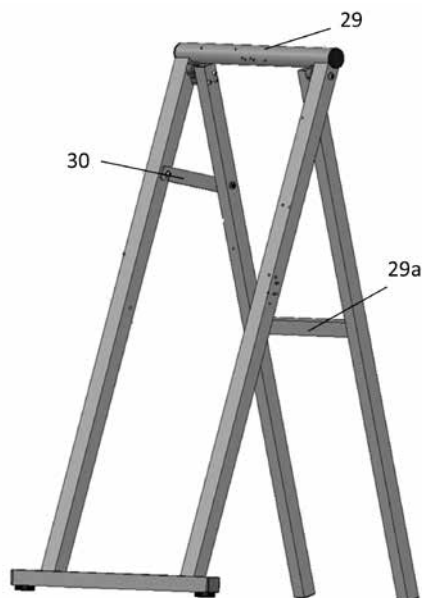

Fig. 4
Open the fastening clamp for the base (Pos. 24, Fig. 3) and separate this from the device. Set up the base as shown in Fig. 4 and lock the safety latch (30).
Lift the ProCut top by the carrying handle (Pos. 27, fig. 3) and the base plate (Pos. 1, Fig. 1) and centre it with the mount for the base (Pos. 23, Abb. 5) on the support for the ProCut top (Pos. 29, Fig. 4).
The transformer with cable reel (Pos. 26, Fig. 2) then leans against the support for the transformer with cable reel (Pos. 29a, Fig. 4). Then fasten the device on the support using the fastening clamp for the base (Pos. 24, Fig. 5). The is used in freestanding state in this position.
Open the safety latch (Pos. 30, Fig. 4) on the base/the freestanding support (Fig. 4) and fold in the base.